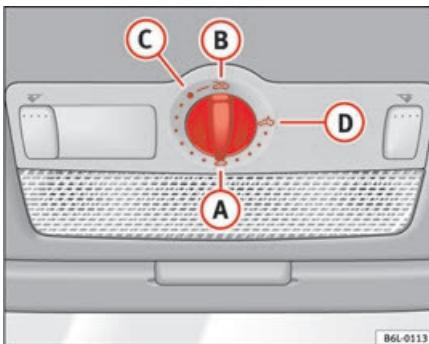

Fig. 54 Detail of the roof lining: rotary control for sliding sun roof/deflector
- Turn the rotary button to position A \Rightarrow fig. 54 \Rightarrow !.